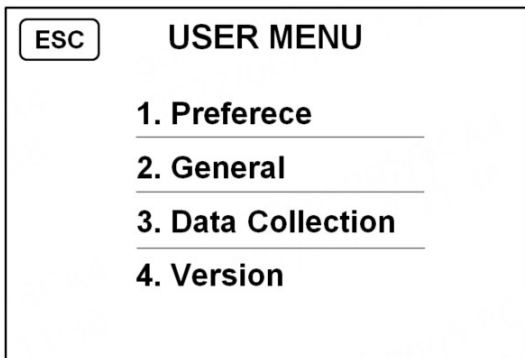
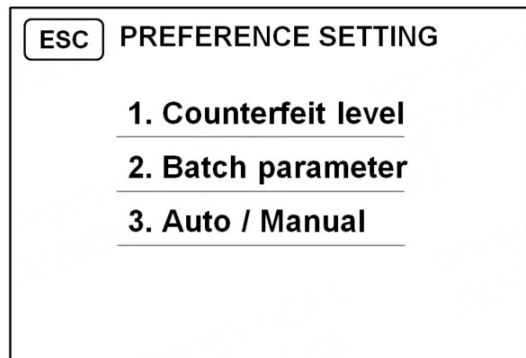

Figure 26
Figure 27
1) Press the **"MENU"** key on the right side of the box below to enter the USER MENU main interface, as shown in Figure 26 below. Then touch **"1. Preference"** to enter the PREFERENCE SETTING interface, as shown in Figure 27.